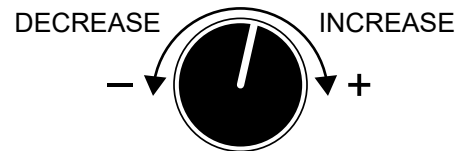

Figure 27. Voltage Regulator
3. Turn the voltage regulator (Figure 27) clockwise to increase voltage output, turn counterclockwise to decrease voltage output. Use the voltage regulator whenever fine tuning of the output voltage is required.
2. Adjust the voltage regulator (Figure 27) for an output of 208V to obtain 120V at the UVWO terminals.